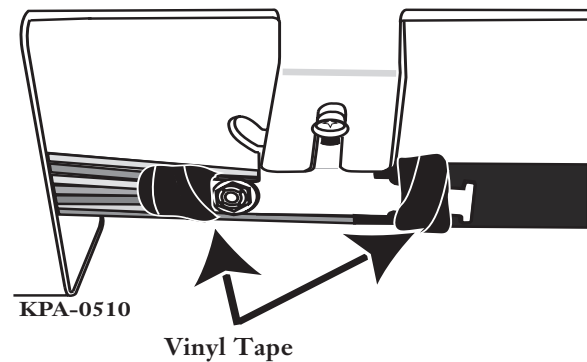

Figure 28 — Install onto Frame
- Step 3** Tighten the strain-relief bracket mounting screw (Figure 28).